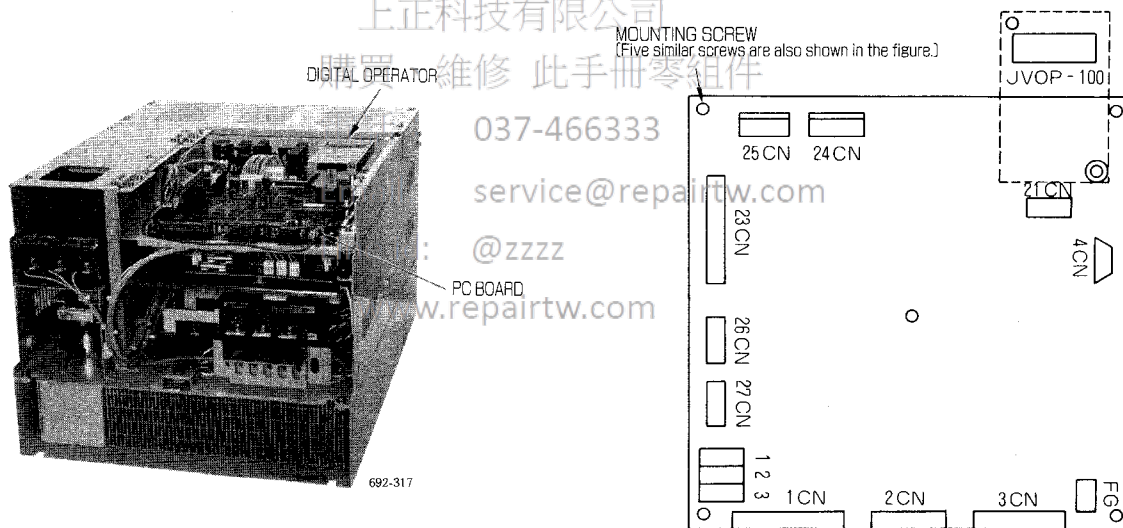

Fig. 15.4 Removing the Controller
(1) How to remove the PC board (Fig. 15.4)